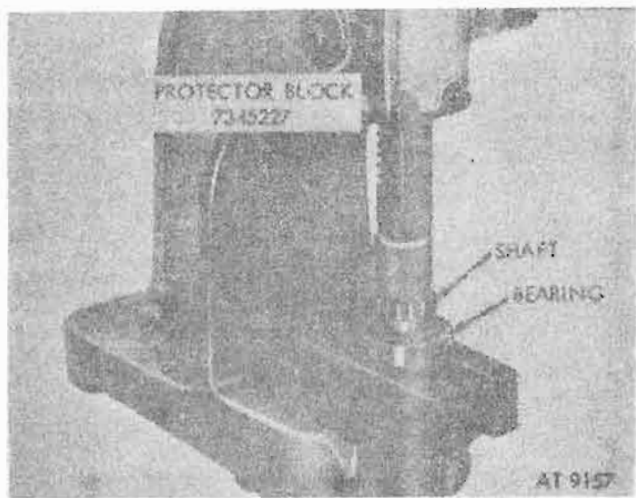

Figure 8-24. Installing front output bearing on output shaft.
c. Press front output bearing on output shaft using protector block (7345227) (fig. 8-24).